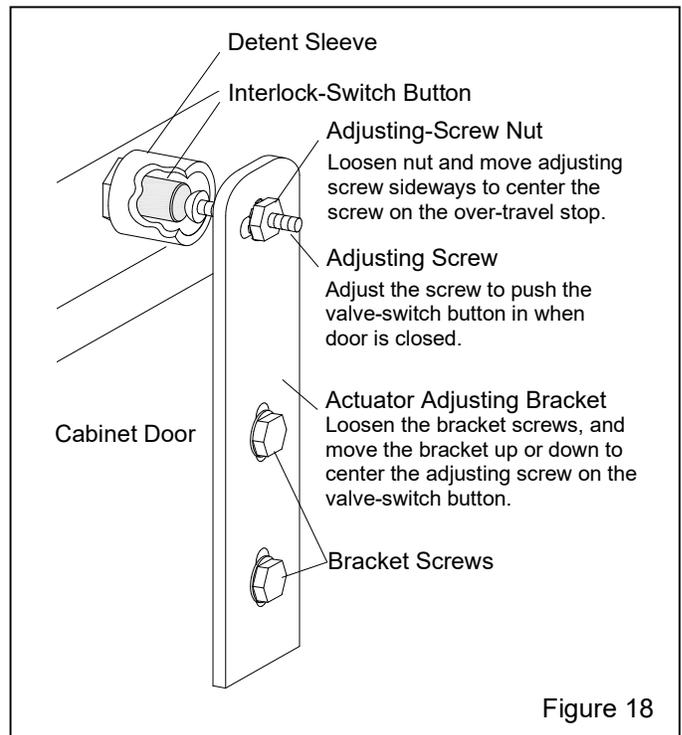

Figure 18
**5.5 Door Interlocks – Figure 18**